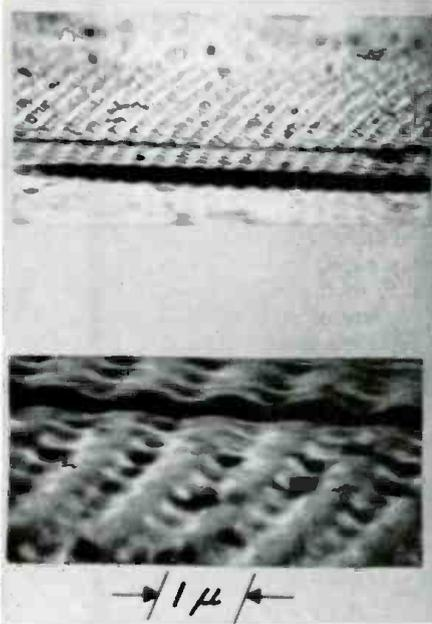
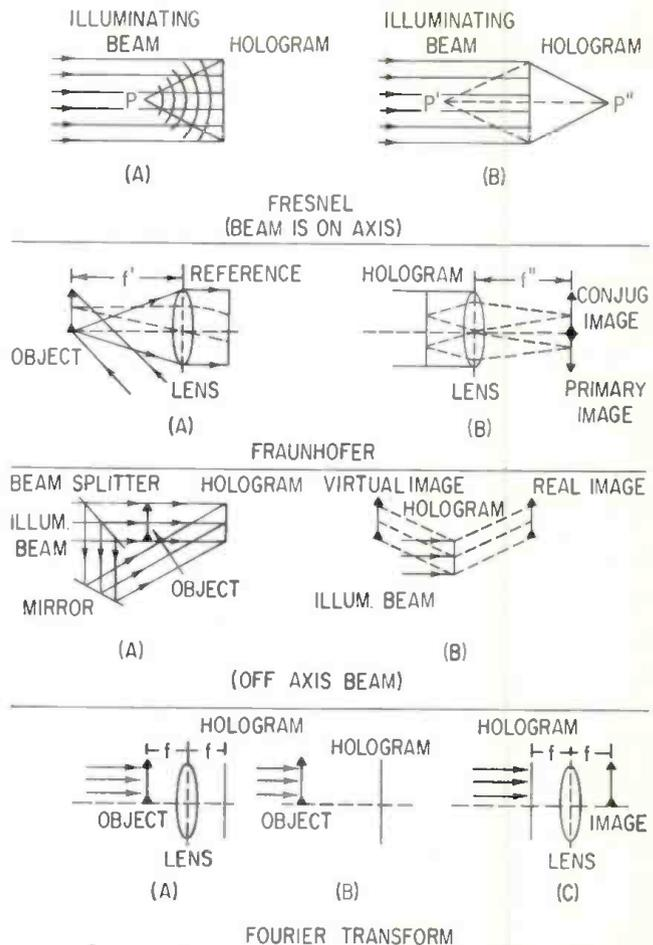

Figure 3. The appearance of a hologram with the indication of 1 micron as the distance between the adjacent ridges.
Figure 2. The various methods of producing holograms.
In the Fresnel method (FIGURE 2) the hologram is formed with the object in the near field while in the Fraunhofer process, the object is in the focal plane of a lens (as is the reference laser beam's source). The resolution of the latter process is much higher than that of the other method. In the third method, the off-axis beam is used to produce images that do not line up. This provides two images each of which can be recorded without interference from the other, a marked improvement over the shortcomings of the Fresnel method, especially, with the two images on the same axis—each interfering with the sharpness of the other. In the Fourier method, the hologram can be produced either with or without a lens (A) and (B) as the reproduction is accomplished with a lens to effect the transform (C). In any event, the hologram contains only waveform patterns (FIGURE 3) not images.